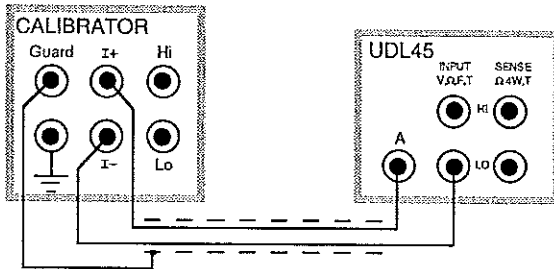
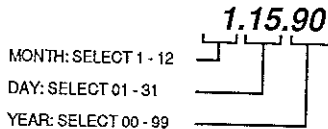

Figure 6-10. Calibrator-to-UDL45 Connections for AC/DC Current
Figure 6-11. Calibration Date Format
- (6) Calibrate 200-mA dc current range.
- c. Connect the calibrator to the UDL45 using a shielded cable as shown in Figure 6-10.
- g. To continue the calibration procedure, go to step (7)d. To conclude the calibration at this point, press FUNCTION ▼ repeatedly until the CAL date is displayed (Table 6-4, step 23) and go to step (10)c.
- (7) Calibrate 200-mA ac current range.
- g. To continue the calibration procedure, go to step (8)d. To conclude the calibration procedure at this point, press FUNCTION ▼ repeatedly until the CAL date is displayed (Table 6-4, step 23) and go to step (10)c.
- g. To continue the calibration procedure, go to step (9)d. To conclude the calibration at this point, press FUNCTION ▼ repeatedly until the CAL date is displayed (Table 6-4, step 23) and go to step (10)c.
- (9) Calibrate 2-A ac current range.
- g. To continue the calibration procedure, go to step (10)c.
- (10) Entering a CAL Date.
- b. Press FUNCTION ▼ repeatedly until the CAL date is displayed (Table 6-4, step 23). See Figure 6-11.